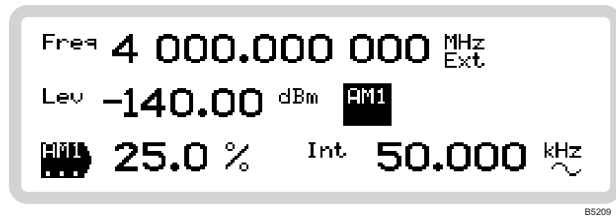

Fig. 3-35 AM1 main screen
- 2 Press **[SIG GEN]** to show the main screen, and touch the **[AM1]** soft box to select the function (Fig. 3-35).